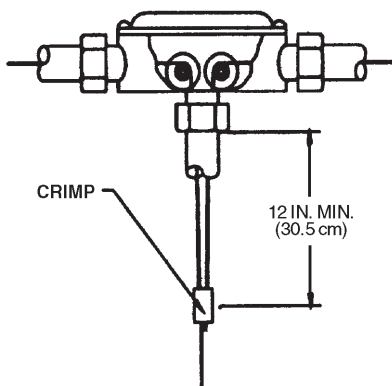

FIGURE 19
The Model TP-1 Tee Pulley is used to connect two (2) remote mechanical pull stations to a single control head. The cable proceeding from the control head must always enter the branch of the tee pulley. See Figure 19.